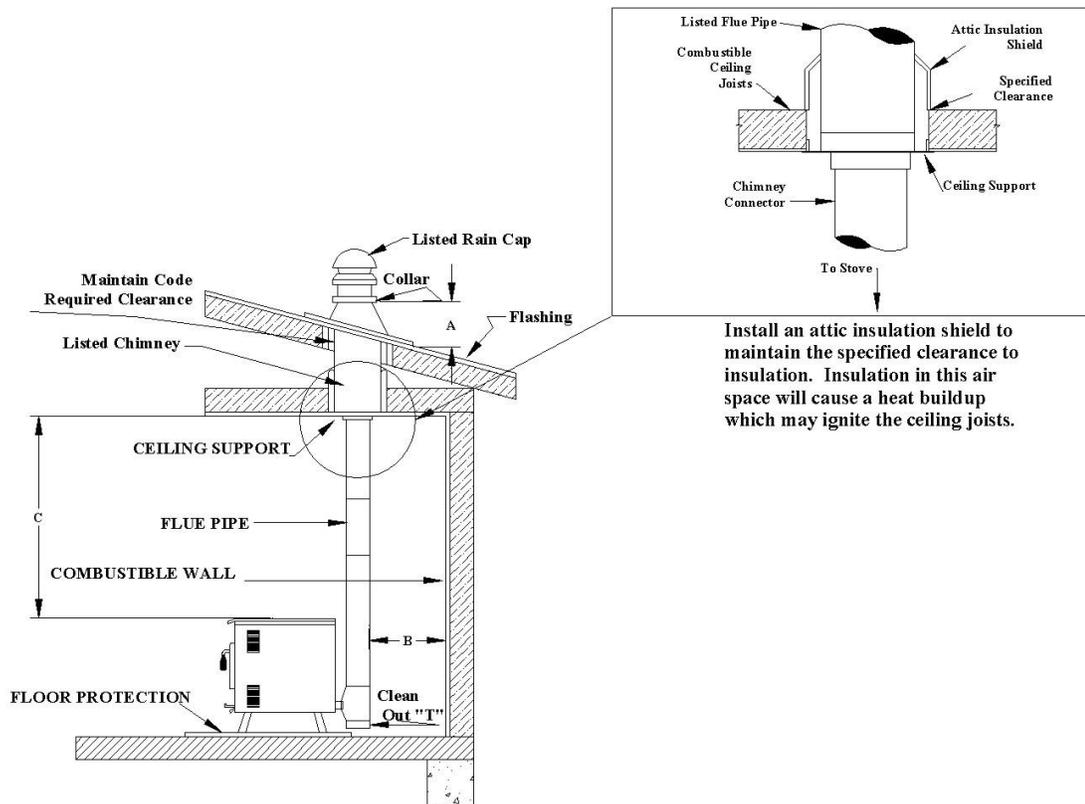

FIGURE 2: TRADITIONAL VENT PIPE
7. FIGURE 2 shows a traditional, as well as more efficient, flue pipe installation. Note the dimensions that are required to be maintained in this type of installation. Dimensions are A equals a minimum of 24", B equals a minimum of 3", and C equals a minimum of 6". Again, check with the flue pipe manufacturer's installation instructions and code requirements for exact specifications. **DIMENSIONS:**